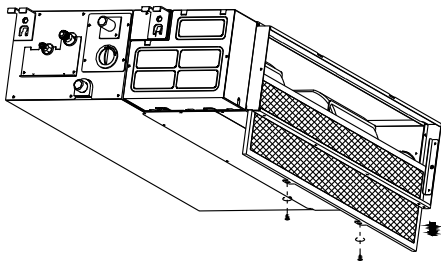

Fig.G1
1. For a rear return air configured unit, please remove the screws (2 pieces) fixed on the filter and pull down the filter away from the unit. See Fig.G1.